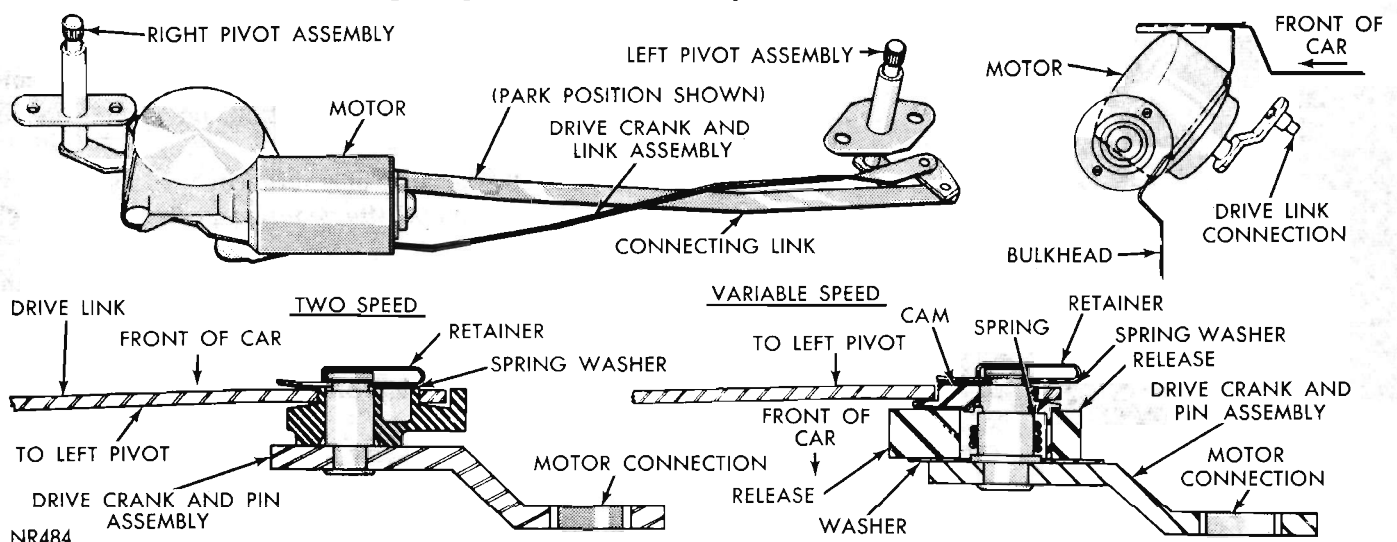

Fig. 6—Wiper System—All except Fury and V.I.P. Models
In heater equipped models, remove motor drive crank arm retaining nut and pry crank arm off of motor shaft. Remove drive link retainer from left pivot crank arm pin and withdraw assembly from under panel. Remove motor drive crank arm from drive link after removal of assembly from vehicle (Fig. 6).
(1) Install bushing on motor crank arm pin, position drive link on bushing so large side of **pivot bushing** faces away from drive crank arm. Large side of pivot bushing will be on same side of link as crank arm retainer.
(2) Install spring washer, convex side towards link and install retainer (Fig. 6).